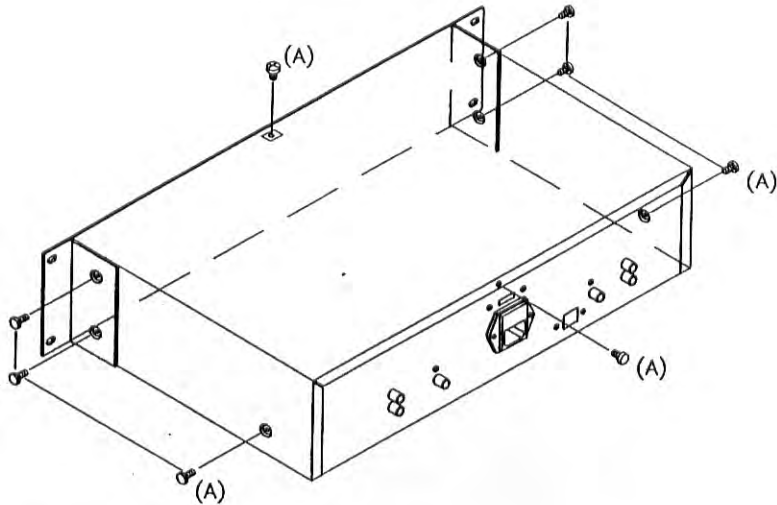

Fig.1
1. REMOVAL OF TOP COVER(Fig.1)
- (A) TAKE OUT THE 8 PC SCREWS FROM WHICH THE CABINET FRONT IS MOUNTED IN PLACE.